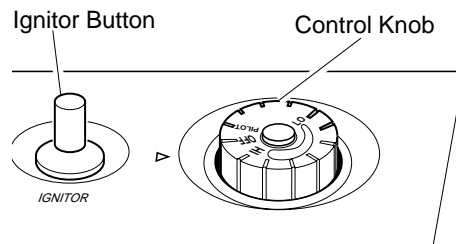

Figure 15 - Control Knob In The OFF Position
4. Wait five (5) minutes to clear out any gas. Then smell for gas, including near the floor. If you smell gas, STOP! Follow "B" in the safety information page 11, column 3. If you don't smell gas, go to the next step.
5. Turn control knob counterclockwise to the PILOT position. Press in control knob for five (5) seconds (see Figure 15).